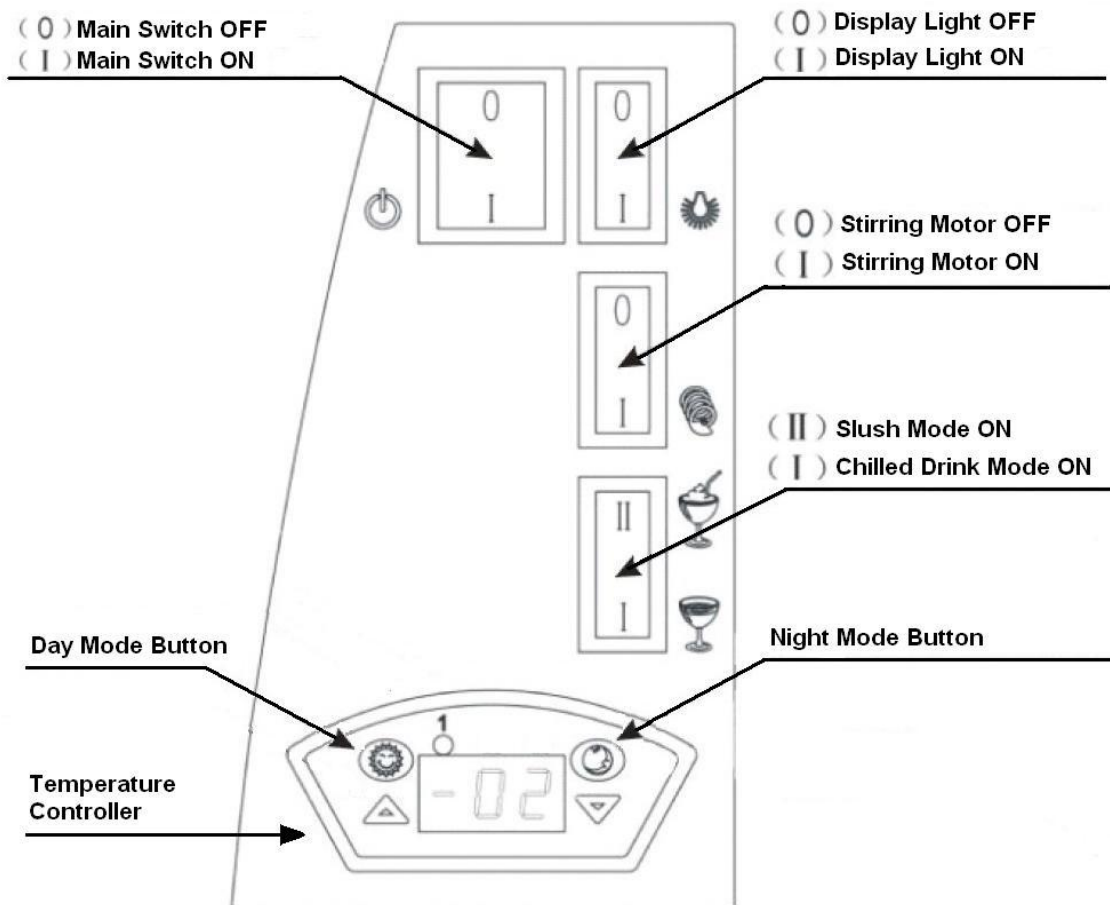

Fig. 1
1. Switch off the main switch (see Fig 1)
1. Turn on the main switch on the side of the dispenser (see Fig 1)
2. Switch the stirring motor to the On position (see Fig 1)
3. Switch controller to Daytime working mode by pressing  on the temperature controller (see Fig 1)
4. Ensure the mode selector switch is set to Slush setting  (see Fig 1)
4. Ensure the mode selector switch is set to the Chilled Drink setting  (see Fig 1)
The LED display lighting can be switched ON/OFF by pressing the  button (see Fig 1)
Main switch is not set to I	Set main switch to I (see fig 1)